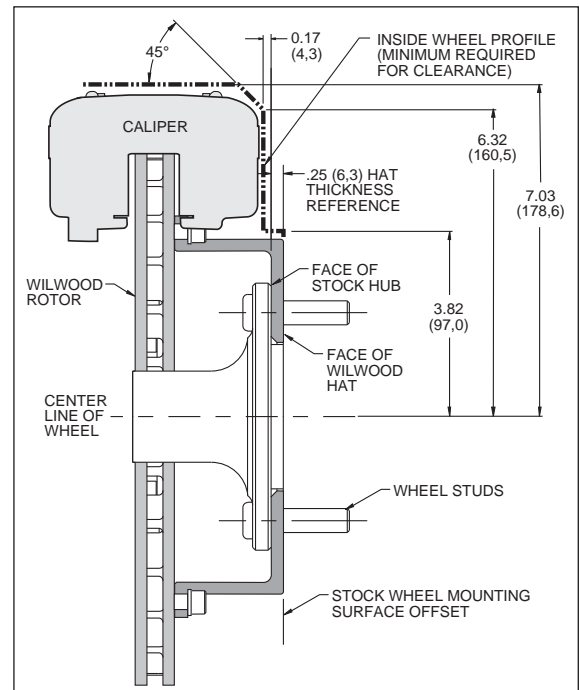

Figure 4. Wheel Clearance Diagram
- Verify your wheel clearance using Figure 4.